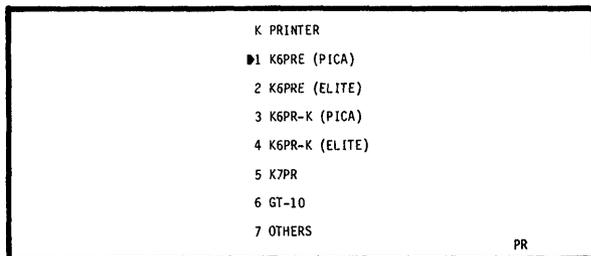

Fig. 14.1
1. When it is desired to interrupt the execution, pressing the **[CL]** key restores the screen shown in Fig. 14.1.
By pressing **PR** key, specify printer mode. Screen changes to the display shown in Fig. 14.1.
- 2 : The screen returns to the display shown in Fig. 14.1.